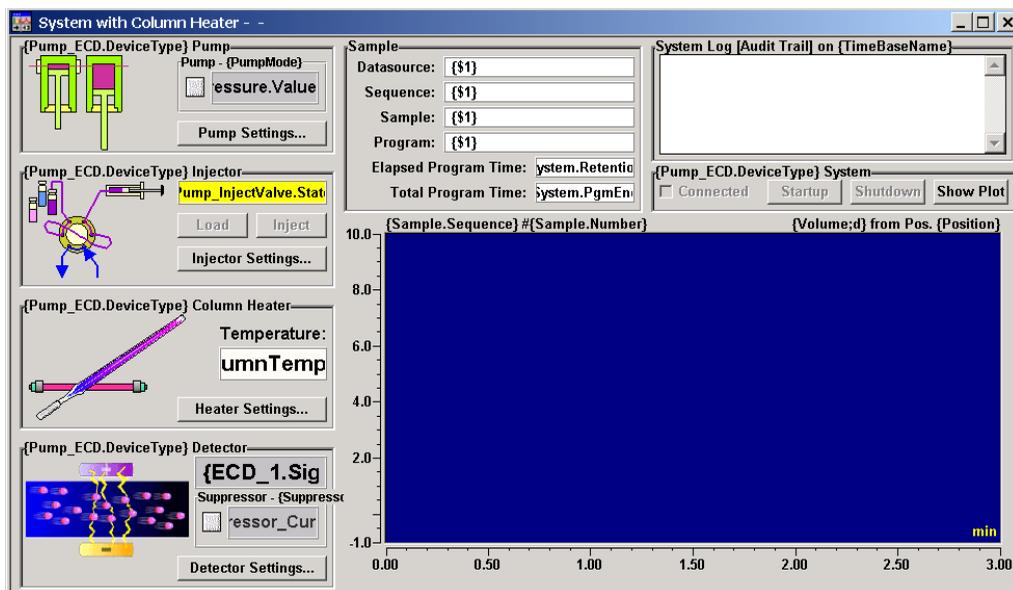

Figure 3-5. ICS-1500 System Control Panel (Unconnected)
5. The Control Panel opens, unconnected (see Figure 3-5). To connect to the timebase, open the **Control** menu and click the name of the ICS-1500 timebase from the list at the bottom of the menu.